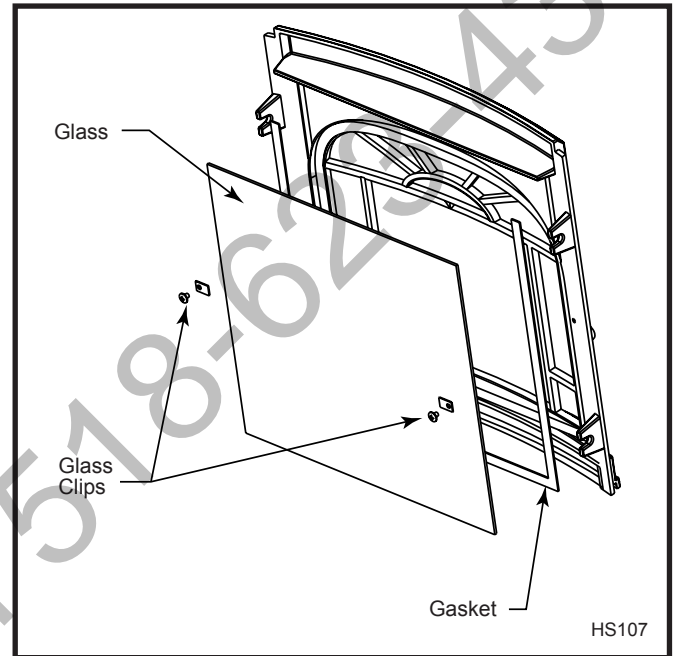

Fig. 5 Door assembly.
7. Locate the glass clips on the inside surface of the front casting. Remove the glass, and clear the area of any glass fragments. (Fig. 5)
8. Secure new glass (with gasket) to the inside surface of the front casting, reversing the process above, making sure the glass is placed with gasket covering the bottom and sides of the glass. (Fig. 5)